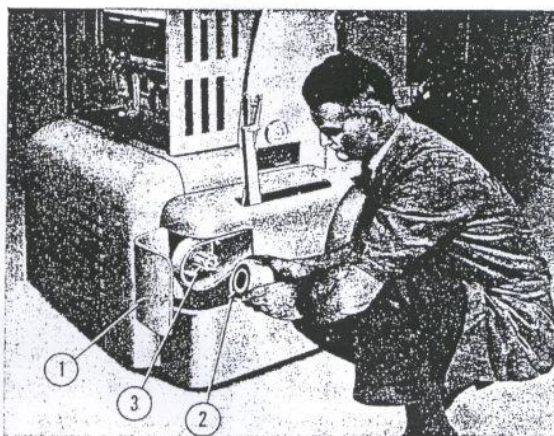

Figure 34—Installing Speed-Change Pulley
g. HOW TO INSTALL SPEED-CHANGE PULLEY. (See figure 34.)